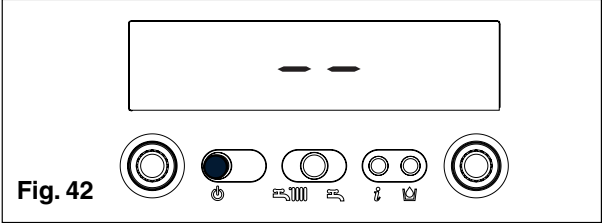

Fig. 42
- ⚠ The parameters must be programmed with the boiler in the OFF position. To do this, press the  button until the display shows - - (fig. 42).
To reset, press the  button (fig. 42).